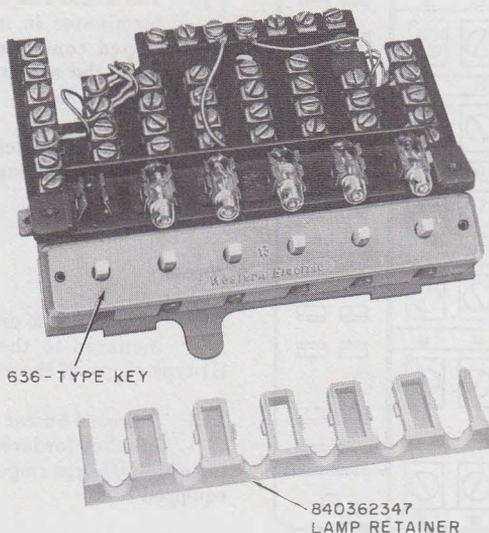

Fig. 5—▶Installing D-180557 Kit of Parts◀
2.05 In early telephone sets equipped with a 636A or B key, the 51A lamp contact springs are susceptible to losing their tension. An adjunct 840362347 lamp retainer (Fig. 5) is available and can be installed between the spring contacts of the lamps. The retainer must be ordered separately as D-180557 Kit of Parts.♦